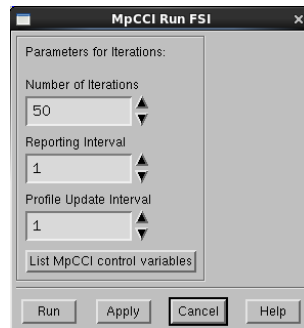

Figure 6: MpCCI Run FSI panel in FLUENT for steady state solution
- a steady state FSI simulation (Figure 6):